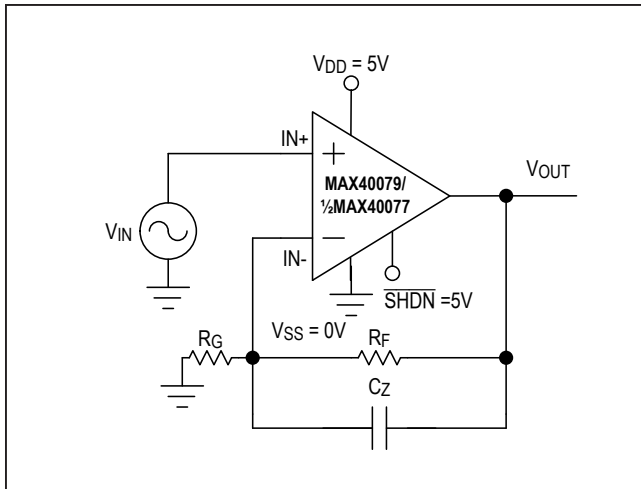

Figure 1. Adding Feed-Forward Compensation
The amplifiers input-referred voltage noise density is dominated by flicker noise (also known as 1/f noise) at lower frequencies and by thermal noise at higher frequencies. Overall thermal noise contribution is affected by the parallel combination of resistive feedback network ($R_F || R_G$) depicted in Figure 1. These resistors should be reduced in cases where system bandwidth is large and thermal noise is dominant. Noise contribution factor can be reduced with increased gain settings.
The amplifier's input capacitance is 7pF and if the resistance seen by the inverting input is large (Figure 1) as a result of feedback network, this resistance and capacitance combination can introduce a pole within the amplifier's bandwidth resulting in reduced phase margin. Compensate the reduced phase margin by introducing a feed-forward capacitor (CZ) between the inverting input and the output (shown in Figure 1). This effectively cancels the pole from the inverting input of the amplifier. Choose the value of CZ as follows: